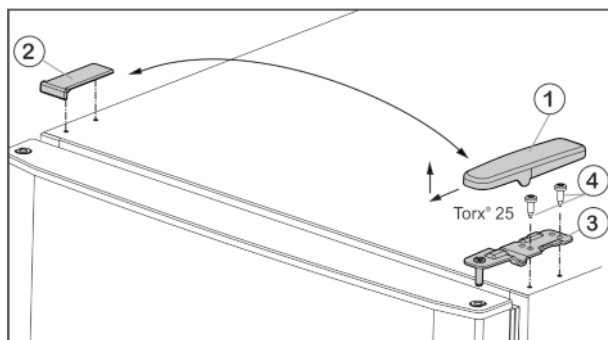

Fig. 5
- Pull off the cover Fig. 5 (1) forwards and upwards.
- Lift off the cover Fig. 5 (2).
- Unscrew the upper turn hinge Fig. 5 (3) (2x Torx® 25) Fig. 5 (4) and lift it off.
- Insert the upper turn hinge Fig. 5 (3) in the door on the new hinge side.
- Screw in the upper bearing block **tightly (with 4 Nm)** (2 x Torx® 25) Fig. 5 (4). Use a cordless screwdriver if necessary.
- Fit the cover *Fig. 5 (1)* on the opposite side by sliding it rearwards and latching it into place.
- Press the cover *Fig. 5 (2)* on the opposite side down into place until it latches.